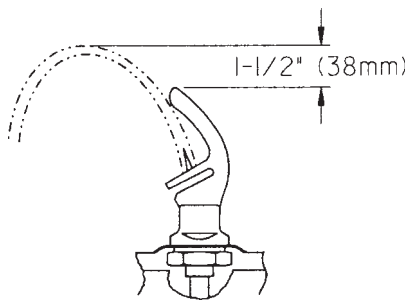
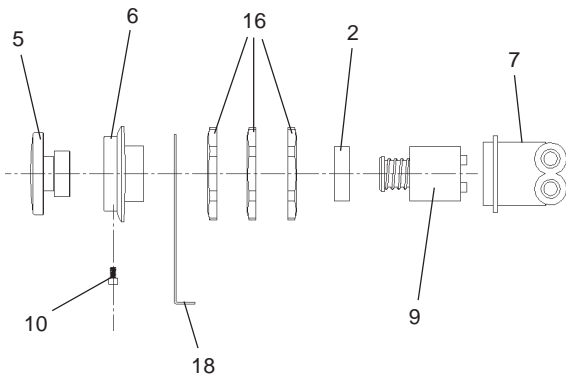

Figure 16 – Stream Height
Figure 17 – Push Button Assembly
10. Check stream height from bubbler. Stream height is factory set at 35-40 PSI. If supply pressure varies greatly from this, adjust the screw on regulator item 9 by using a small screwdriver through the small hole in the push button item 5 (See Fig.17). Clockwise adjustment will raise stream height and counterclockwise movement will lower stream height. For best adjustment, stream height should be approximately 1-1/2" (38mm) above the bubbler guard. (See Figure 16).
11. Mount lower panel. Loosen the two (2) #10-24 x 5/8" (16mm) screws at frame bottom lip. Slide upper tongue of lower panel under lower edge of already installed upper panel. Tighten previously loosened screws securely.